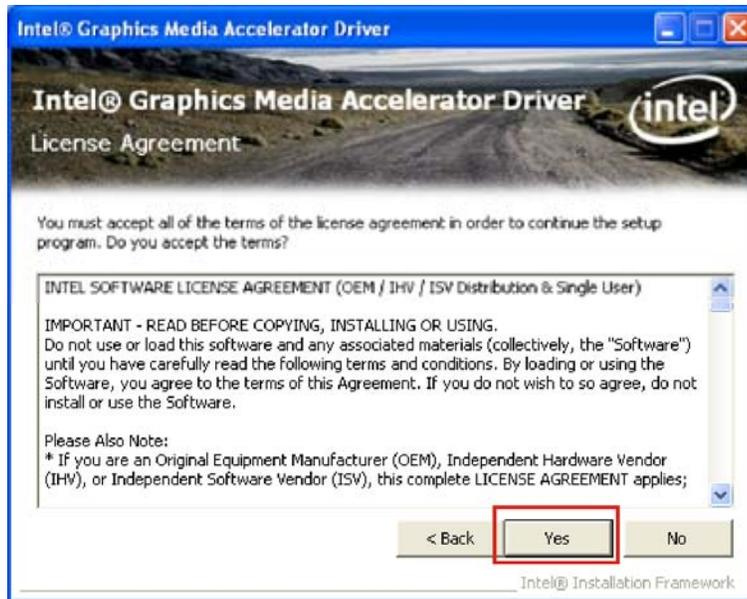

Figure 6-12: VGA Driver License Agreement
Step 27: The license agreement in Figure 6-12 appears.